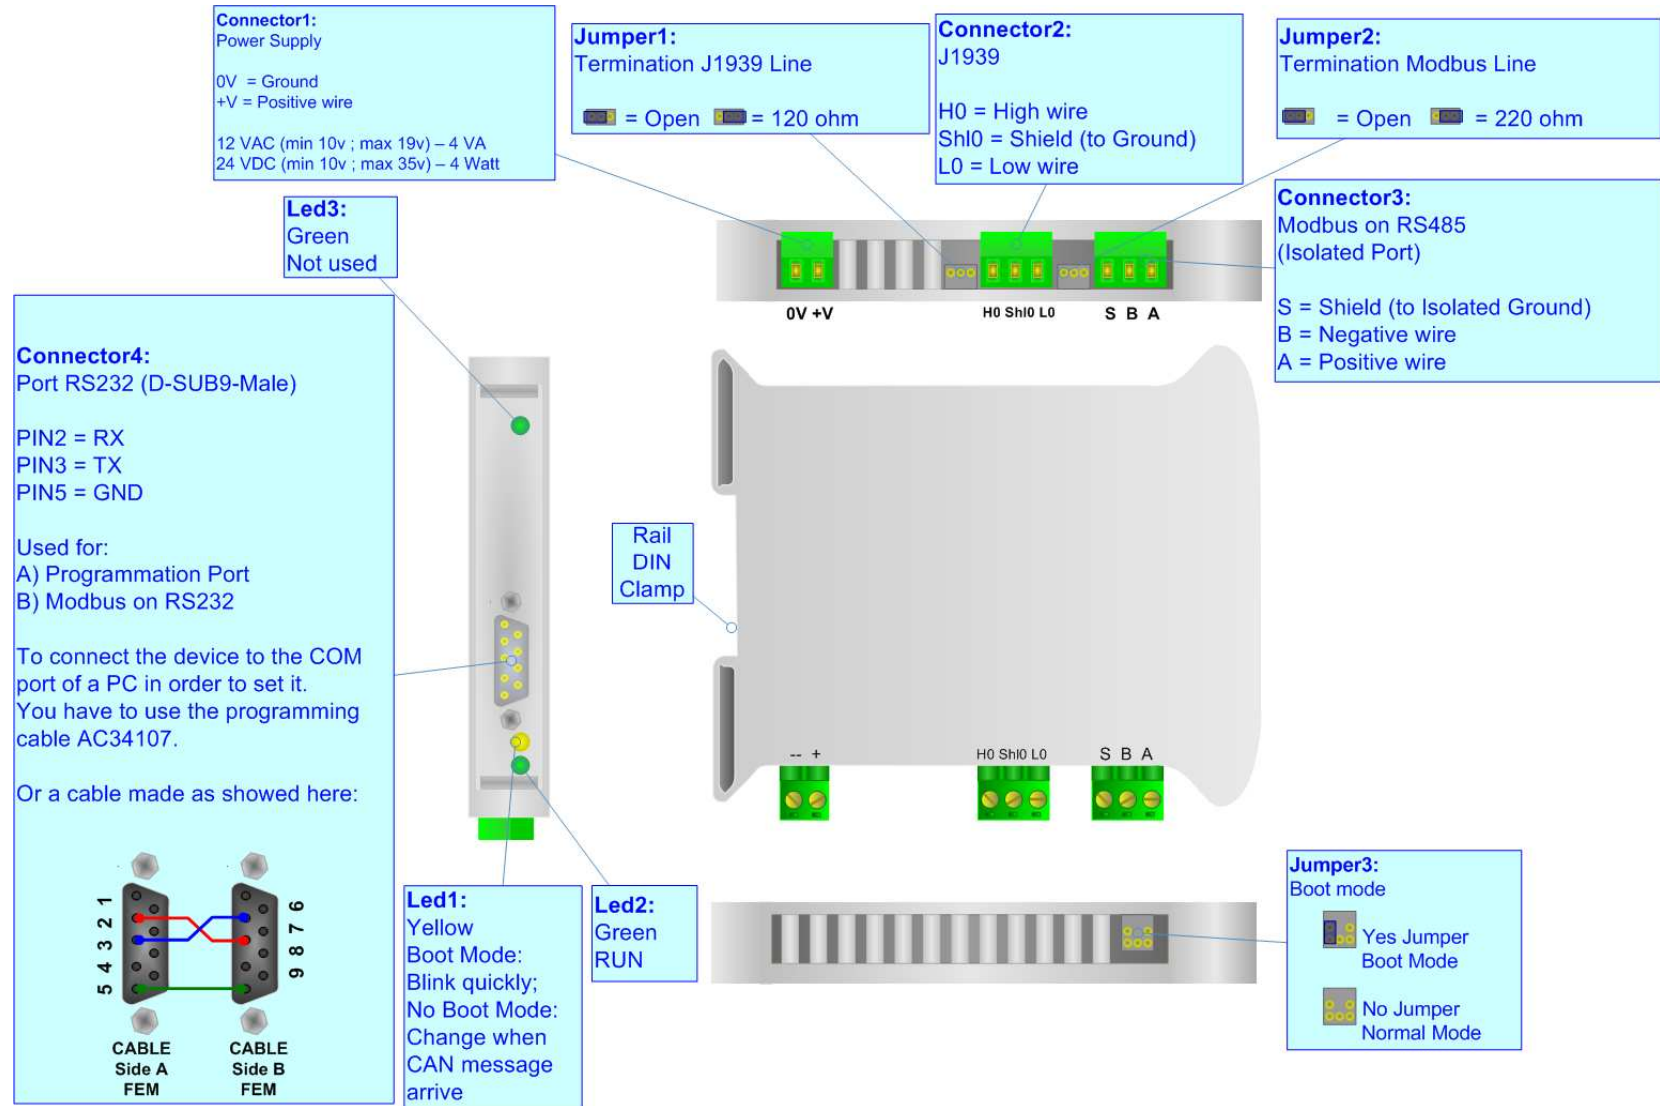

Figure 1: Connection scheme for HD67212
- Insert the Boot Jumper (See the Fig. 1 for more info);